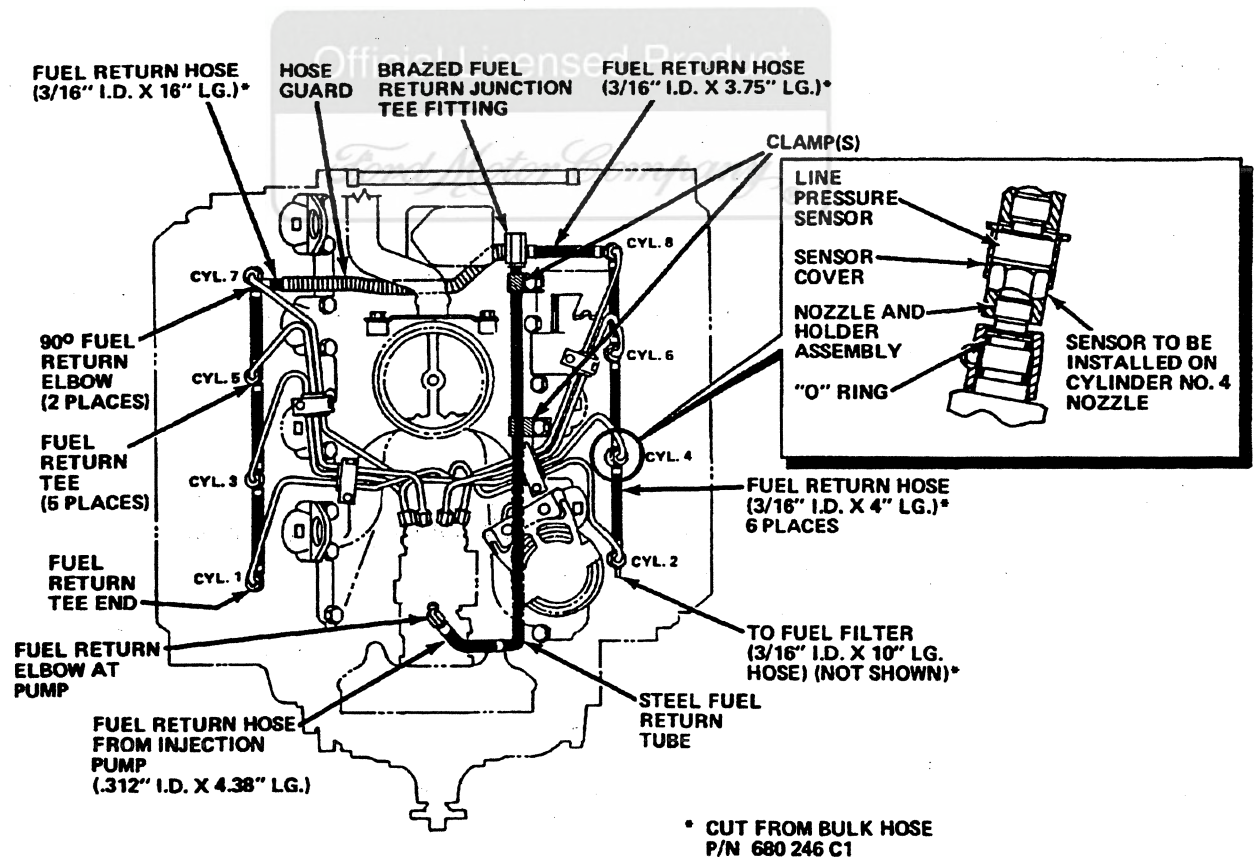

Figure 9.48A. EARLY MODEL Fuel Return Line Routing and Installation
4. Install two new O-ring seals on each nozzle holder body and install the leak-off lines and tees as an assembly after nozzle installation. Refer to Figure 9.48A-D for fuel return line routing.